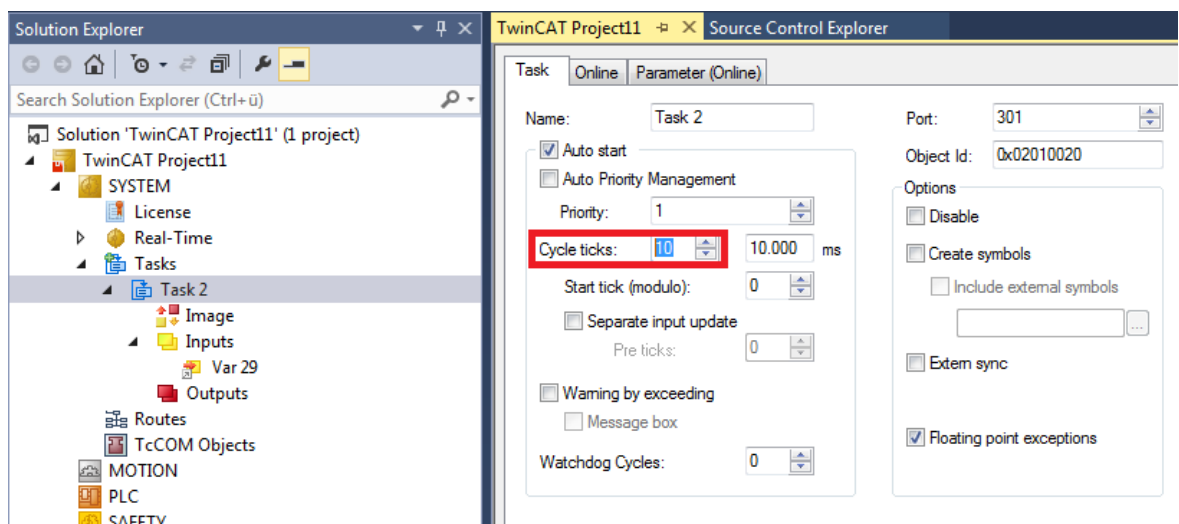

Figure 24: configure cycle time in Run Mode
- e. The cycle time of the EtherCAT communication can be changed by changing the cycle time of the linked I/O Task and reactivating the configuration (Figure 24). The cycle time shall be always a multiple integer of the TwinCAT Base Time.